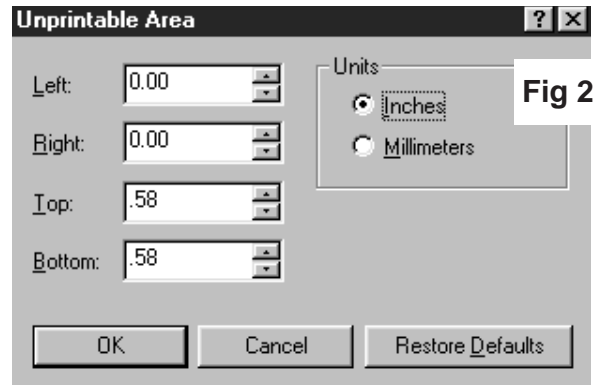

Fig 2
3. Click Unprintable Area and set to zero left and right and .58 top and bottom. (Fig 2)